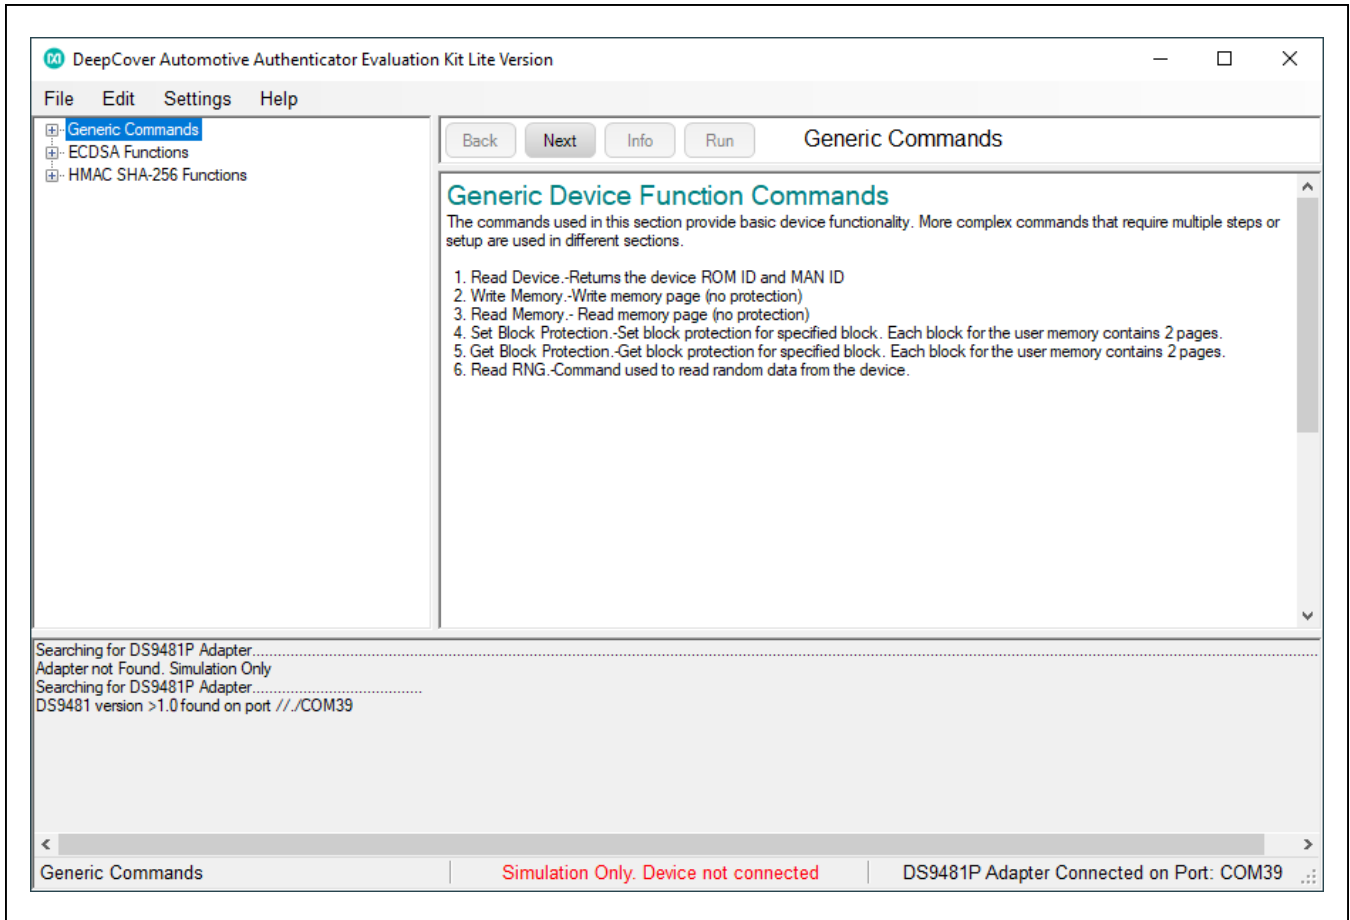

Figure 7. DS28E30 EV Kit Program (Default View Upon Opening)
- 9) The DS28E30 EV kit program opens and automatically connects to the COM port. Review message in the lower right corner of the window to verify connection (Figure 7).